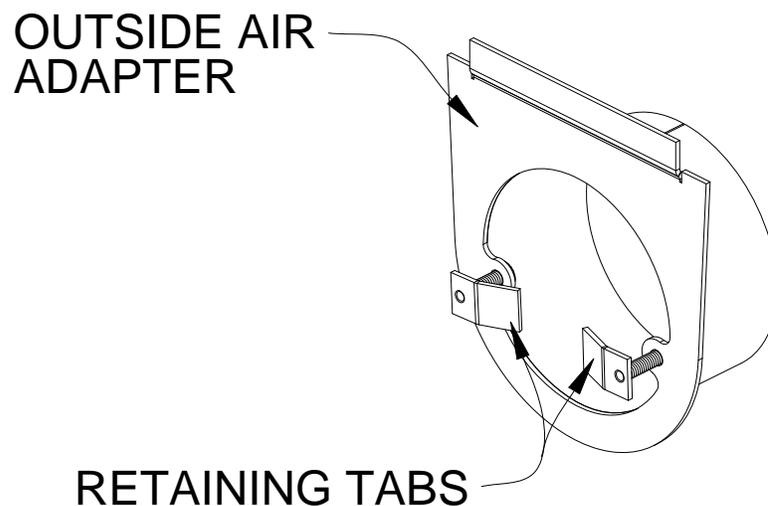
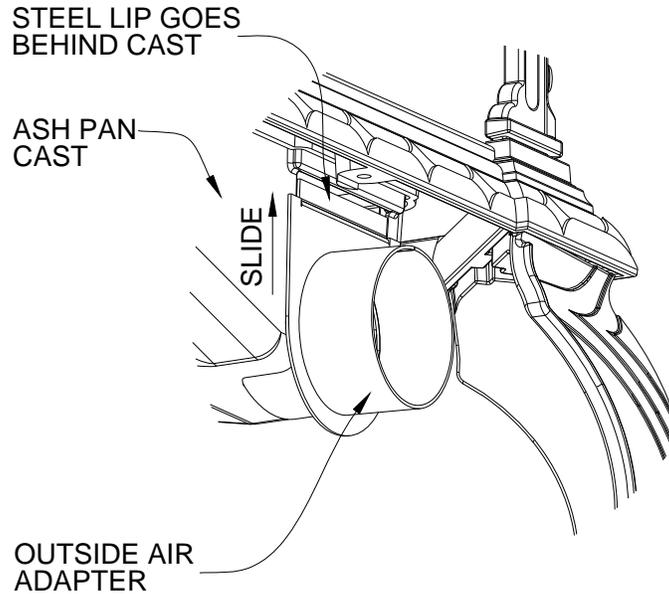
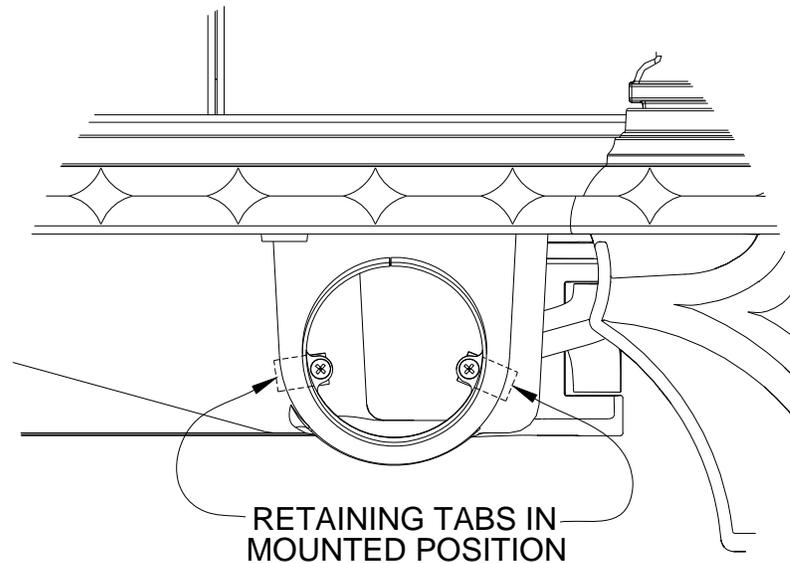

Figure 1
Figure 2: The Heritage 8021 is shown
Figure 3
- 1.) Looking into the end of the outside air adaptor locate the screws with the tabs attached. Loosen each screw using the Cross-tip screwdriver while holding the tab until about a half inch of threads are between the adaptor and the tab. Orientate the tabs to match the position shown in *Figure 1*.
2.) Push the outside air box up to the bottom casting; ensure the retaining tabs are kept in the position shown in *Figure 1*, and then go through the hole in the casting. Position the adaptor vertically. Slide the offset portion of the adaptor plate up and into the opening of the cast box as far as it will go (See *Figure 2*).
3.) Press the adaptor plate tightly against the casting. While holding the outside of the adaptor, reach into the 3 inch sleeve with a long Cross-tip screwdriver and push the screw on the right all the way in while keeping tab oriented as in *Figure 1*. Then turn the screw clockwise allowing the tab to turn and rest against the cast continuing to turn screw until tight (Refer to *Figure 3*). Do the same to the left screw while holding the tab in position behind the cast.